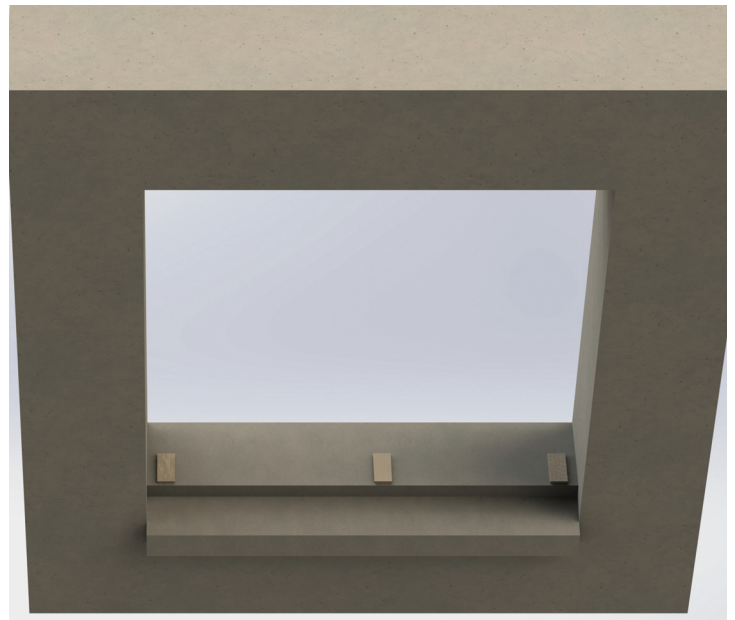

Fig. 2
- D. Check the fit of the sub-sill making sure the conditions are level, the installer can pre-apply the shims to the sill condition prior to installation of the sub-sill. (Fig. 2)